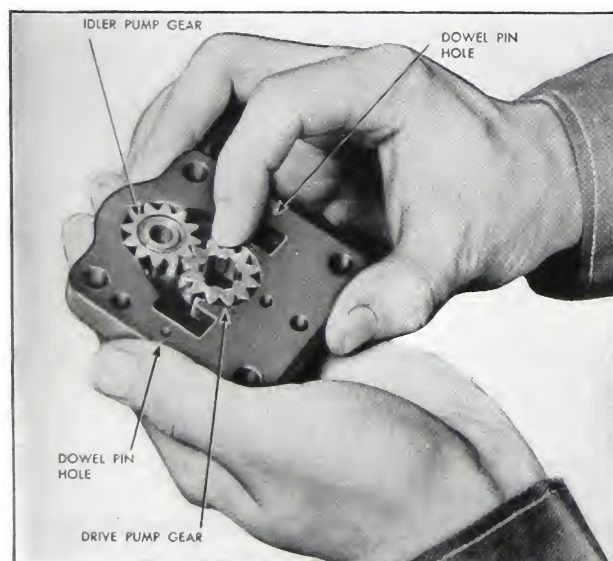

Fig. 5-126. Testing pump gears
Pump Gears: The pump gears should be tested for free rotation as shown in Fig. 5-126. If gears turn roughly, inspect for nicks or wear of the gear teeth and interference at internal corners of bores for gears.
2. Place pump gears as shown in Fig. 5-126.